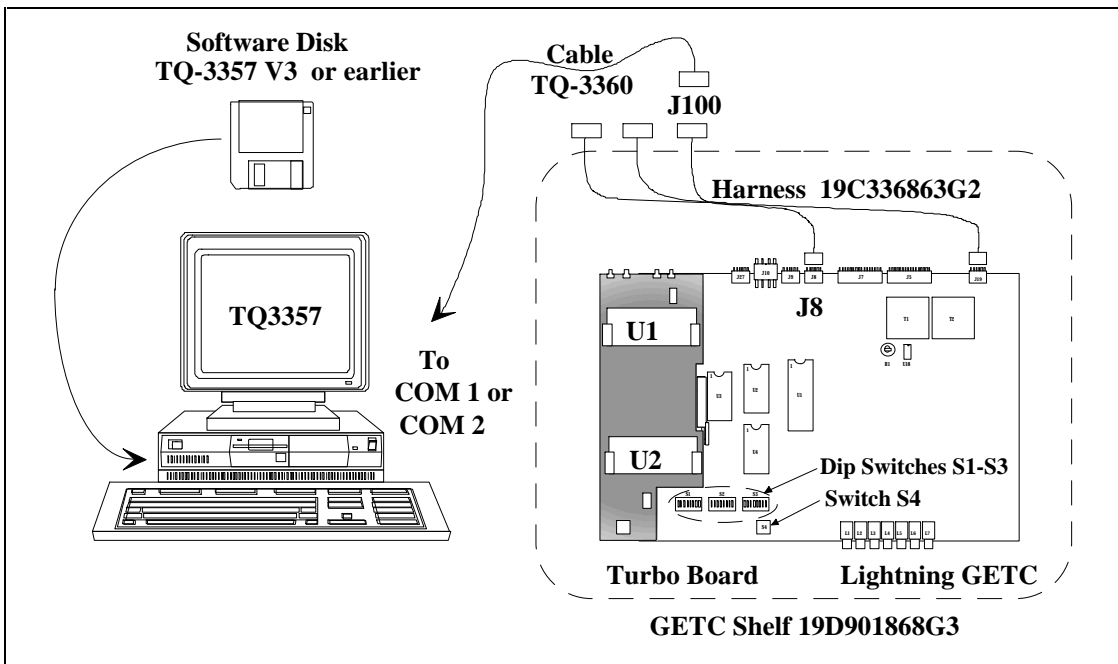

Figure 5 - System Hook-Up Using J100
1. Connect one end of the serial programming cable (TQ-3360) should to the computer's COM port. Connect the other end of the serial cable to the GETC Shelf connector J100, see Figure 5.